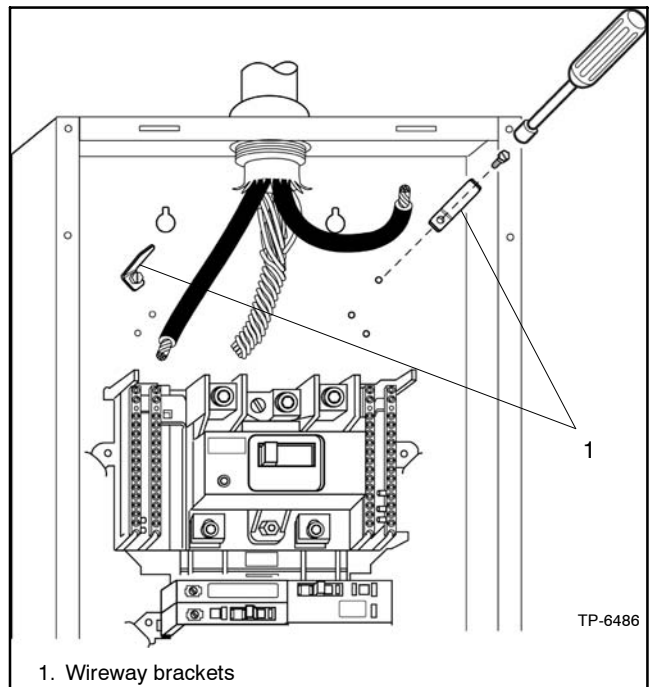
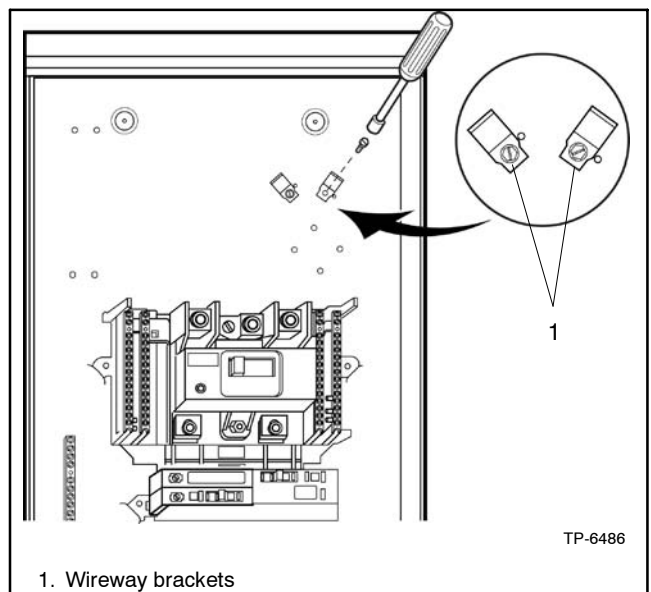

Figure 2-8 Installing Wireway Brackets, Type 1 Enclosures
Figure 2-9 Installing Wireway Brackets, Type 3R Enclosures
2. Before tightening the screws, orient the brackets to a 45° angle. Locating dimples are provided on the back plate of the enclosure as a guide. Refer to Figure 2-8 for Type 1 enclosures and Figure 2-9 for Type 3R enclosures.